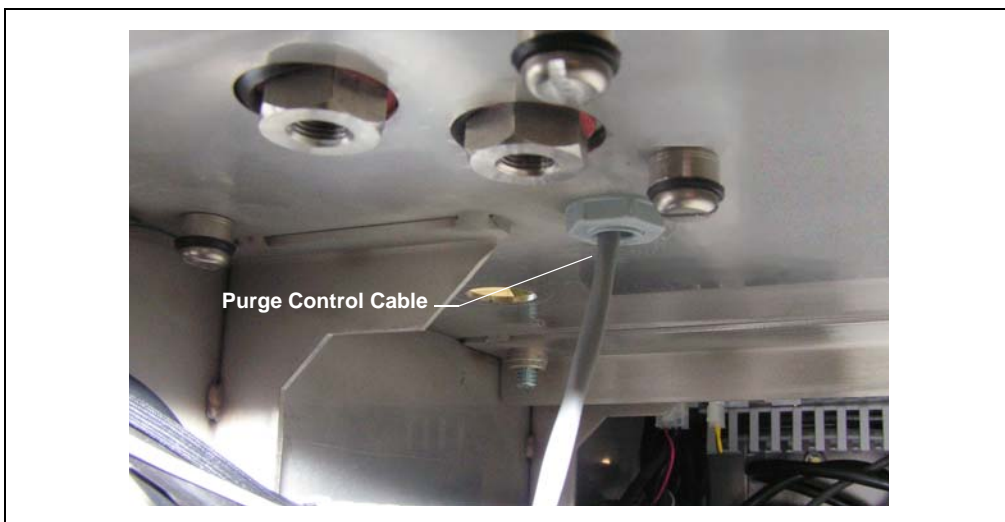

Figure D-3. AE Interior: Purge Control Cable
6. On the inside of the AE, thread the red and black wires of the purge control cable through the gray fitting nut (see Figure D-3) and out to the top of the AE.